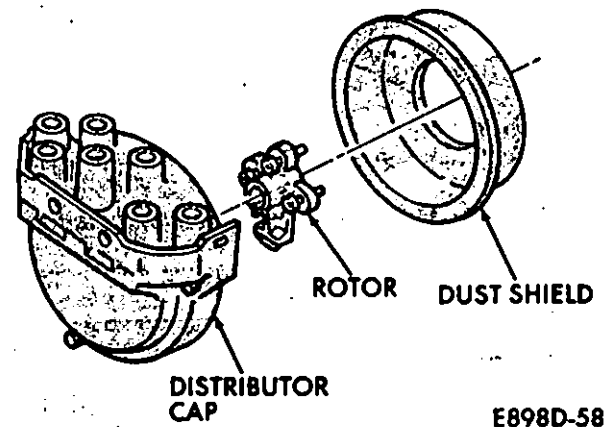

Fig. 20—Distributor Cap/Rotor/Dust Shield
- (2) Remove distributor cap mounting screws.
- (3) Remove three screws and the rotor (Fig. 20).
- (4) Remove the dust shield.
- (5) Transfer the spark plug wires to the new distributor cap. Refer to Specifications for the firing order.
- (6) Reverse the removal procedures to install the Distributor Cap/Rotor/Dust Shield.